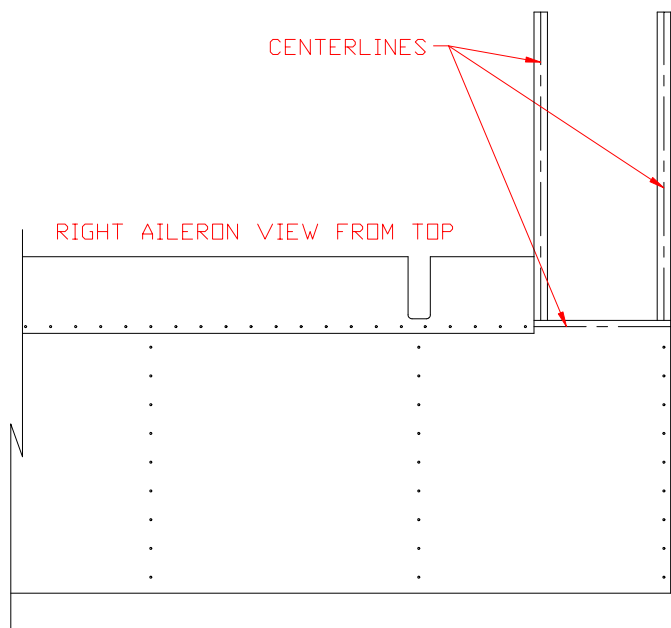

Figure 7.6.1
- 1) Draw a center line on the top and bottom flanges of the Spade Ribs. Also a line that continues the Spar rivet line top and bottom. Figure 7.6.1.